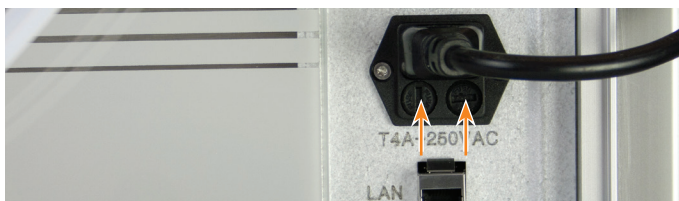

Figure 68. Fuse holders at the power inlet.
5. Unscrew the two fuse holders at the power inlet on the right side of the system; see Figure 68.